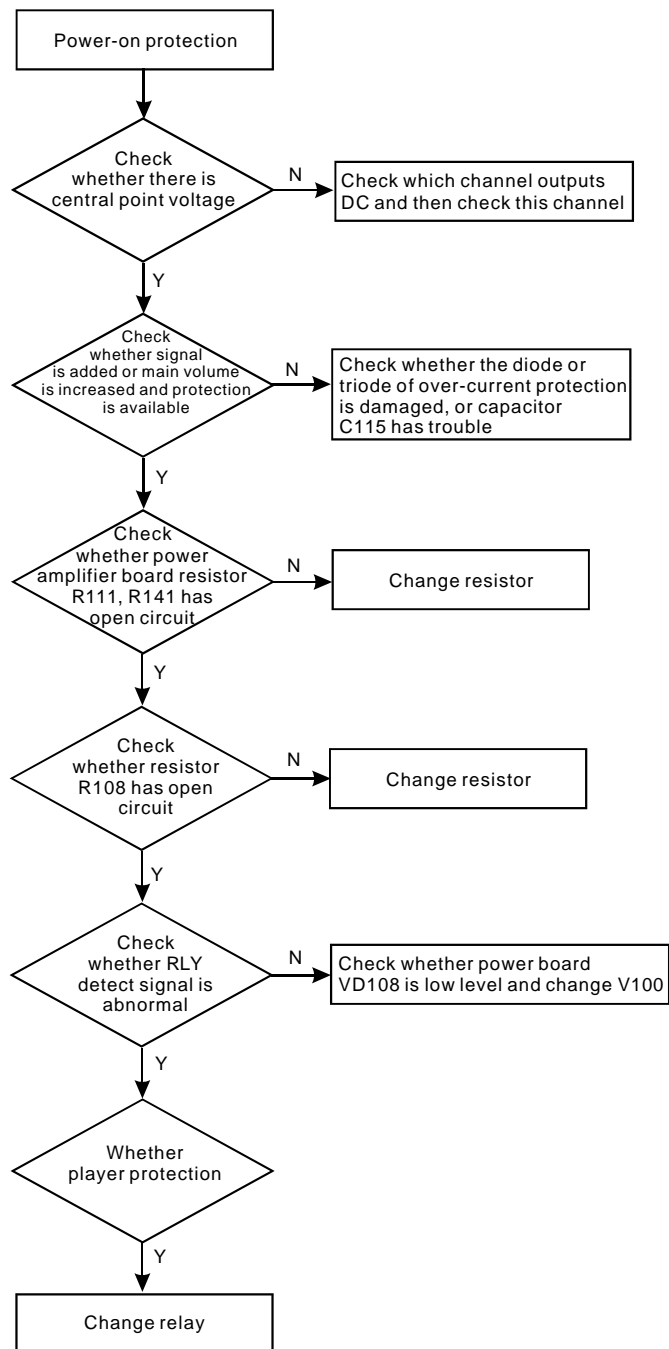

Figure 3.3.2.1 Troubleshooting flow chart for “Power-on protection”
1. Troubleshooting process for “Power-on protection” is shown as in the following figure 3.3.2.1:
2. Troubleshooting flow chart for “Karaoke has no sound” is shown as in the following figure 3.3.2.2: